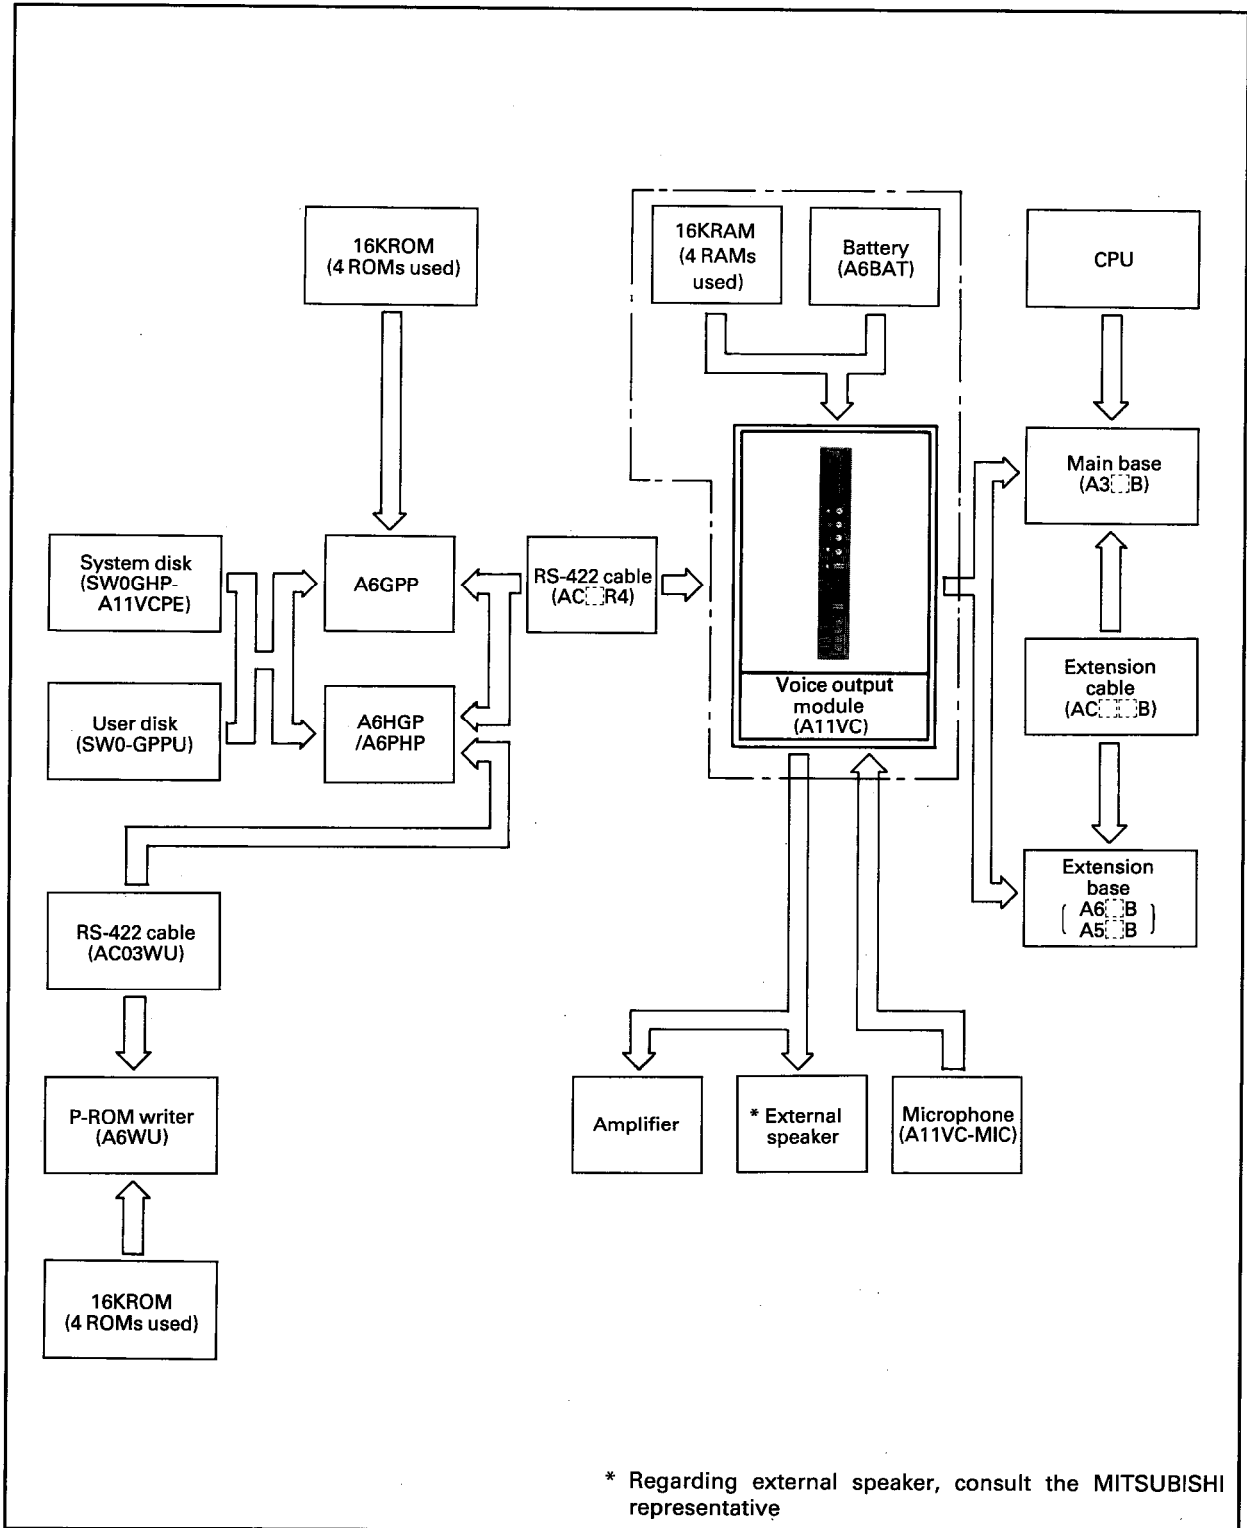

Fig. 2.1 System Configuration (using building block type CPU)
(1) Fig. 2.1 shows the system configuration that uses a building block type CPU.